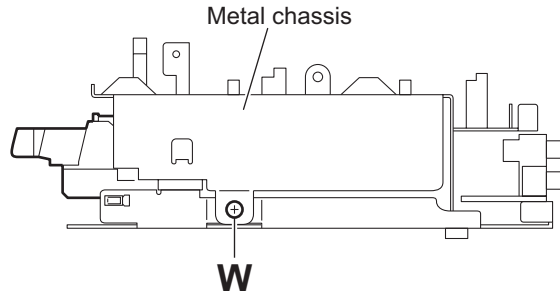

Fig.25
(See Figs.25 to 28)**
- (1) From the right side of the main body, remove the screw **W** attaching the metal chassis. (See Fig.25.)